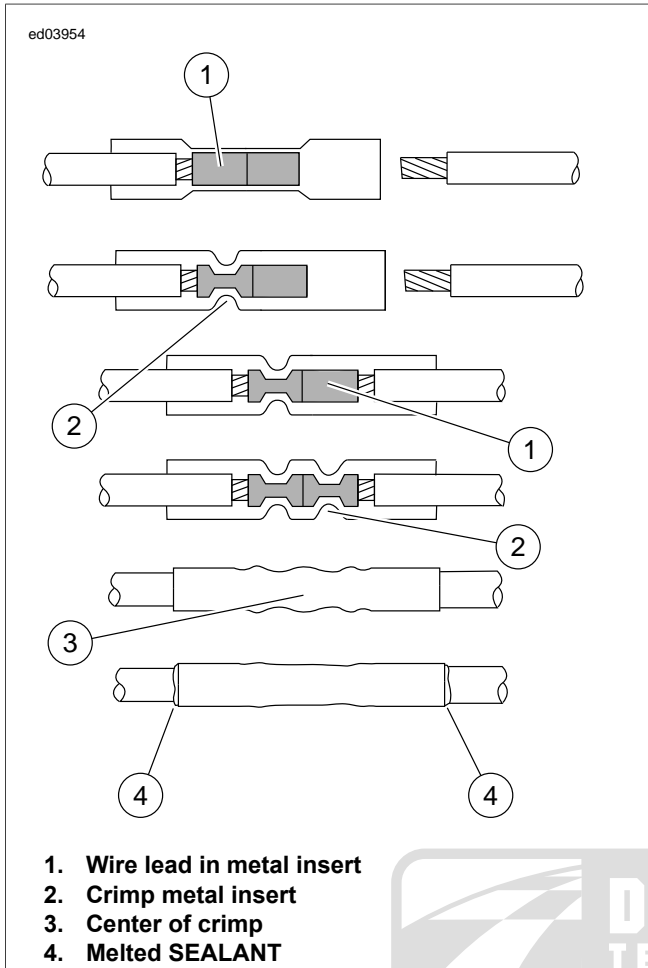

Figure B-31. Sealed Splice Connector
- See Figure B-31. Feed the stripped end of a wire into the connector until the wire stops inside the metal insert.
See Figure B-31. Allow the splice to cool and inspect the seal. The insulation should appear smooth and cylindrical. Melted sealant will have extruded out the ends of the insulation.